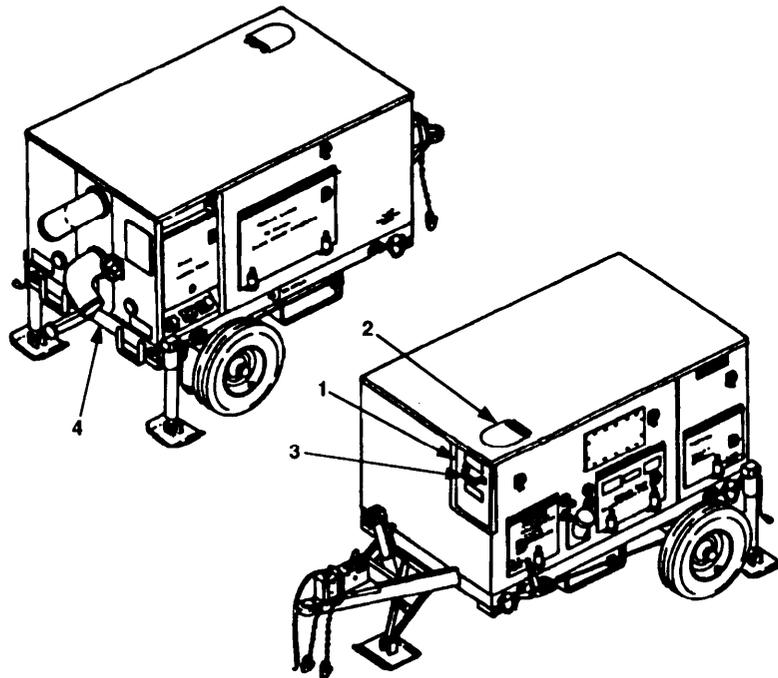

Figure 2-26. Shutdown Requirements for Model 609-C.
- (1) Turn AUTO THROTTLE rheostat (3) to START (idle position) . Let engine idle for 2 or 3 minutes.
- (2) Set ENGINE switch (2) to STOP.
- (3) Set MAIN POWER switch (9) to OFF.
- (4) Close control panel door.
- (5) Unlock AUTO DEFEAT handle (7) and pull out. Lock in extended position.
- o. Refer to Figure 2-26 and perform the following if extended shutdown is expected or move to a new location is required.
- (1) Push air outlet scoop handle (3) to close air outlet scoop (1) and engine exhaust door (2) .
- (2) Open pump drain plug (4) and allow pump to drain.
- (3) After all water has drained from pump, install drain Plug (4).